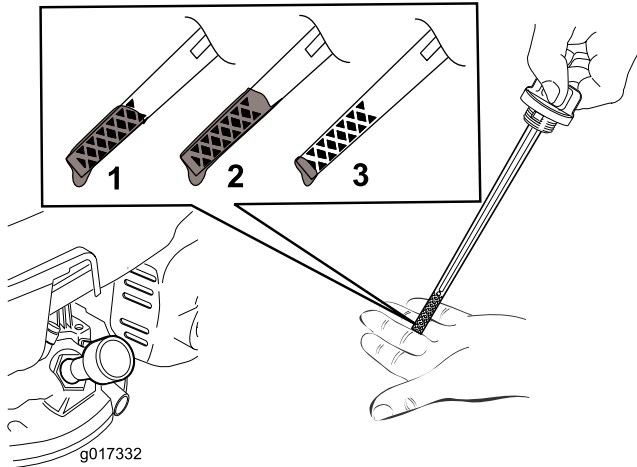

Figure 12
5. To determine the proper oil level on the dipstick, refer to Figure 12.
Note: Fill the engine crankcase with oil until the dipstick indicates that the engine-oil level is correct as shown in Figure 12. If you overfill the engine with oil, remove the excess oil as directed in Changing the Engine Oil \(page 15\).